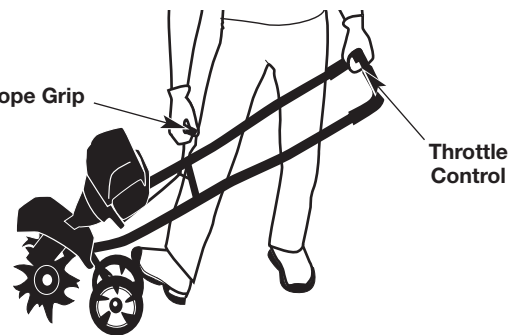

Fig. 7
WARNING: Avoid accidentally starting the unit. To avoid serious injury, the operator and the unit must be in a stable position when pulling the starter rope (Fig. 7).
WARNING: The tines may rotate during the starting process. Always stand in the starting position. Use one foot to hold the wheels in place. Tilt the unit back slightly to bring the tines off the ground (Fig. 7).
3. Stand in the starting position (Fig. 7). Hold the handlebar firmly with one hand. Hold the starter rope with the other hand. Use one foot to hold the wheels in place.
4. Tilt the unit back slightly to bring the tines off the ground (Fig. 7).
5. Pull the starter rope with a controlled and steady motion until the unit starts (Fig. 7).